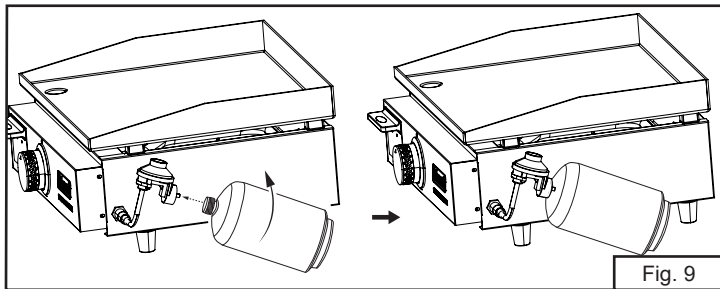

Fig. 9
7. Screw in the LP bottle (not included) into the gas regulator, turning the tank counterclockwise (Fig. 9).
- The LP bottle should look like the picture when properly connected to the regulator. (Fig. 9)